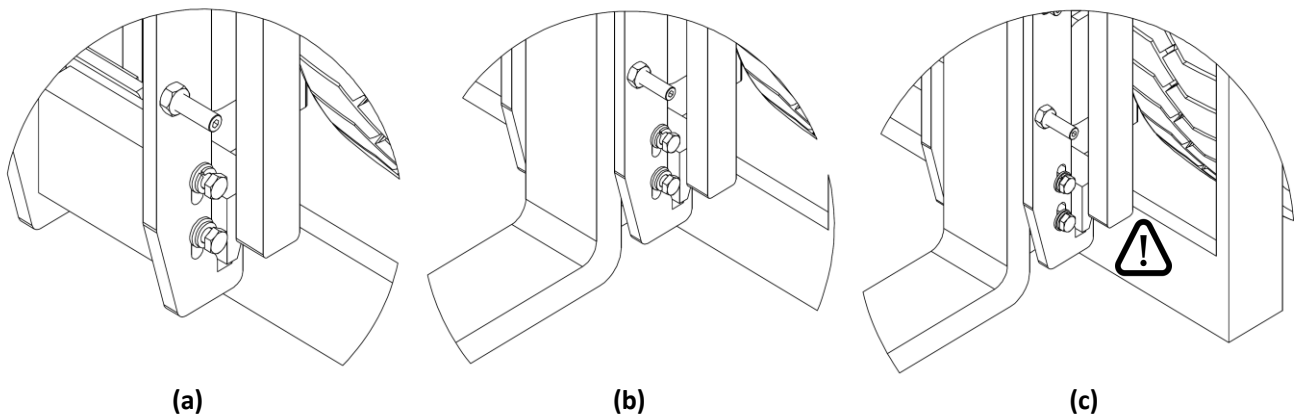

Figure 13
1. Loosen the side bolts of the lower fork coupling so that it can be moved to the upper extremity of the slot. Keep it in this position until the fork is fitted (see *Figure 13, a*).
2. Position the fork (see *Figure 13, b*).
3. Return the coupling to its original position and tighten the bolts that secure it in place (see *Figure 13, c*).